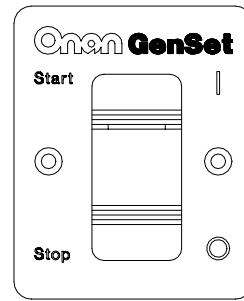

FIGURE 5. REMOTE SWITCH
- Remote switch / status lamp (Figure 5).